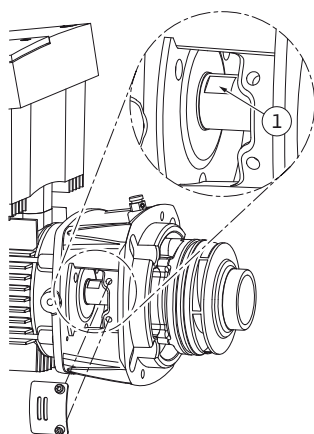

Fig. 47: Wrench surfaces on the shaft
14. Release the two captive screws (Fig. 47, Item 1) and remove the protective plate (Fig. 47, Item 2).
15. Put an open-end wrench (22 mm is the best size) into the lantern window and hold the shaft steady with the wrench surfaces (Fig. 47, Item 3). Unscrew the impeller nut (Fig. 6, Item 15). The impeller (Fig. 6, Item 16) is automatically pulled off the shaft.
24. During the assembly of the impeller, put an open-end wrench (22 mm is the best size) into the lantern window and hold the shaft steady with the wrench surfaces (Fig. 47, Item 3).
30. Remove the open-end wrench and reinstall the protective plate (Fig. 47, Item 2).